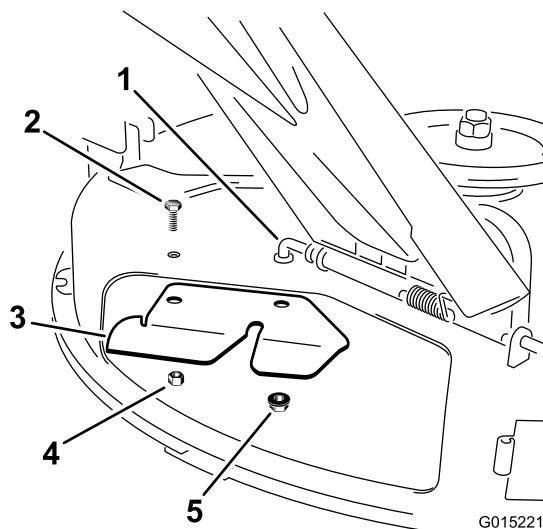

Figure 21
3. Install the new cutoff baffle to the underside of the deck (Figure 21). Secure it with the fasteners removed previously.